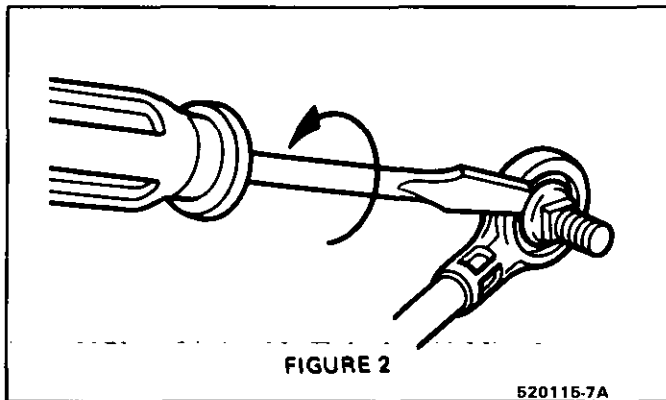

FIGURE 2
- If cable end does not have a plug, use a screwdriver or flat tool as shown in Figure 2.